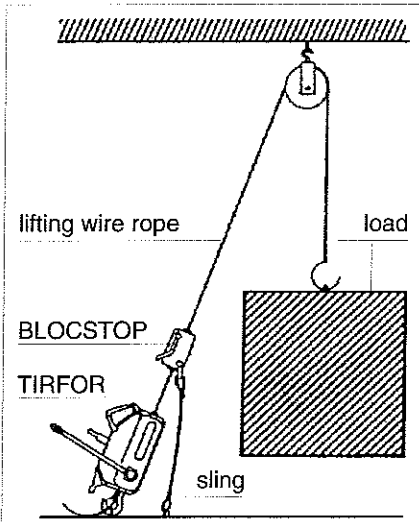

Fig. 4 - BLOCSTOP on lifting wire rope
**Mounting the BLOCSTOP** is very easy. If the lifting machine is operating with TIRFOR or TIRAK wire rope, the BLOCSTOP is mounted on the wire rope above the hoist (Fig. 4).